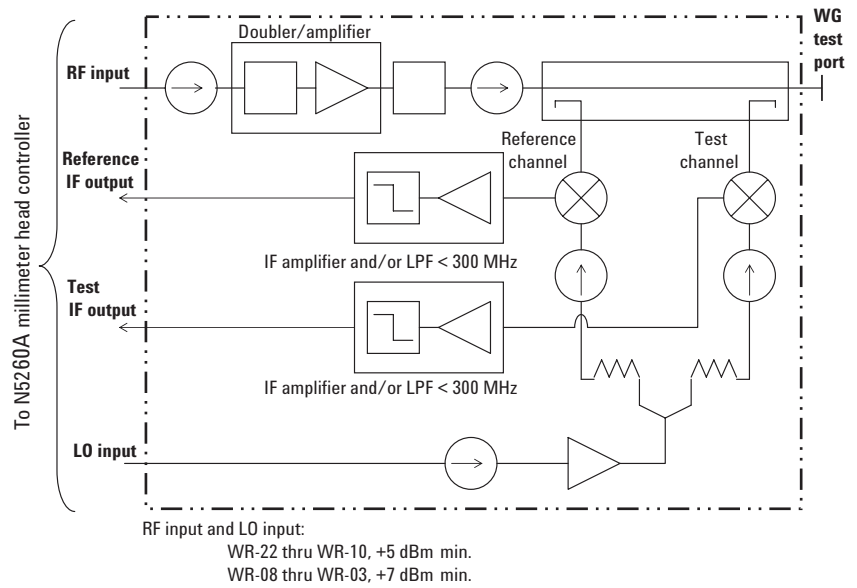

Figure 2. Simplified block diagram of an OML T/R test head module.
OML VNA2 waveguide test head modules are available in transmission/reflection (T/R) and transmission (T) configurations. Each Agilent part number, N5260AWxx, includes a pair of T/R test head modules and the respective WG calibration kit. Figures 2 and 3 show the simplified block diagrams of an OML VNA2 T/R test head module and a T test head module, respectively. Other combinations of test head modules may be available from Agilent Technologies; as an example, one T/R and one T modules. Please contact your local Agilent Technologies representative for more detail.
Power control is not available when operating at banded millimeter-wave frequencies. Although one appears to be able to vary power under **Channel > Power... > Test Port Power**, in reality, it makes no difference at the waveguide interface because (1) the amplifiers inside the test head modules are designed to operate at saturation (see Figure 2), therefore, increasing the RF Test Port Power in the PNA results in no change at the waveguide interface; (2) the RF and LO outputs from the rear panel of the PNA are coupled off before the splitter or any control mechanism, thus, providing no control for power.